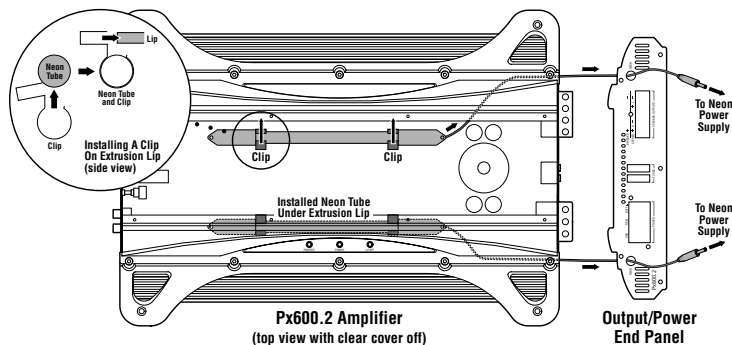

Figure 9. Installing neon tubes in a JBL Px600.2 amplifier. Installation is similar for other models.
4. Locate the enclosed hardware bag and remove the four clips. Each clip has a square end and a larger round end. Using a round end, press two clips onto each neon tube (e.g., Street Glow AN9 or equivalent), as shown in **Figure 9** below.
5. For each tube, align both clips so the square ends slide onto an exposed extrusion edge, as shown in Figure 9. Do not cover any screw holes. When installed correctly, each neon tube will sit under an extrusion and not be visible when viewed from directly above.
6. Route each neon tube's power cable through its respective NEON hole on the end panel (see **Figure 9**).